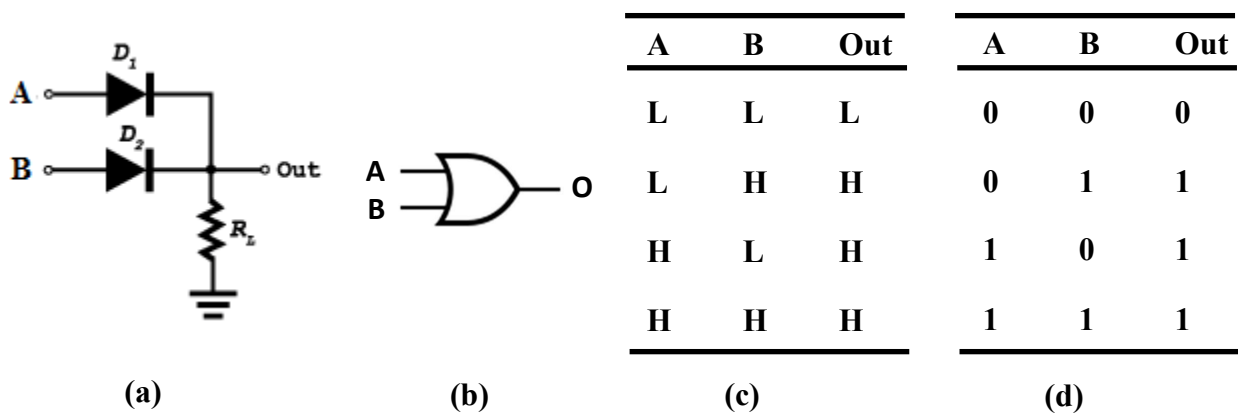
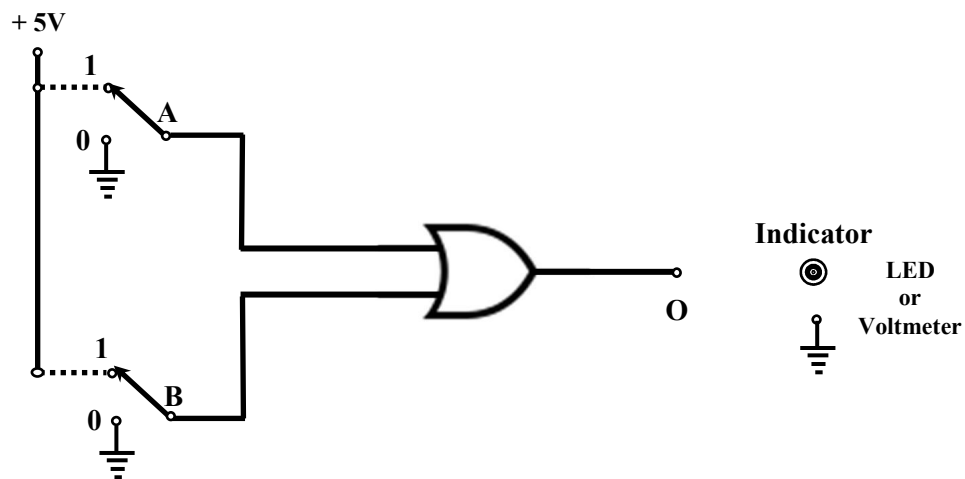

Fig. 2. (a) Electronic circuit of 2- input OR gate (b) Symbol of OR gate (c) Output of 2- input OR gate (d) Binary equivalent of output
Fig.8 Connection for OR gate
OR gates: The OR gate has two or more input signals but only one output signal. It is called an OR gate because the output voltage is high if any or all of the input voltages are high. For instance, the output of 2-input OR gate is high if either or both inputs are high. Fig. 2(a) shows one way to build a 2-input OR gate using diodes. The input voltages are leveled A and B, while the output voltage is out. Let us assume that input voltages are either 0 V (low state) or +5 V (high state). There are only four possible cases:
Fig. 2 (c) is the truth table for an OR gate. Examine this table carefully and note the following: the OR gate has a high output when either A or B or both are high. In other words, the OR gate is any-or-all gate; an output occurs when any or all of the inputs are high. **Fig. 2(d)** is binary equivalent of **Fig. 2(c)**.
- (v) Similarly connect the circuit of OR, NOT, NAND, NOR and XOR gates as shown in figs. 8, 9, 10, 11 and 12 respectively. For different input combination note down the corresponding outputs for different gates and form truth table for each and every gate. Verify the observed truth table of OR, NOT, NAND, NOR and XOR gates with figs. 2(d), 3(d), 4(c), 5(c) and 6(d) respectively.